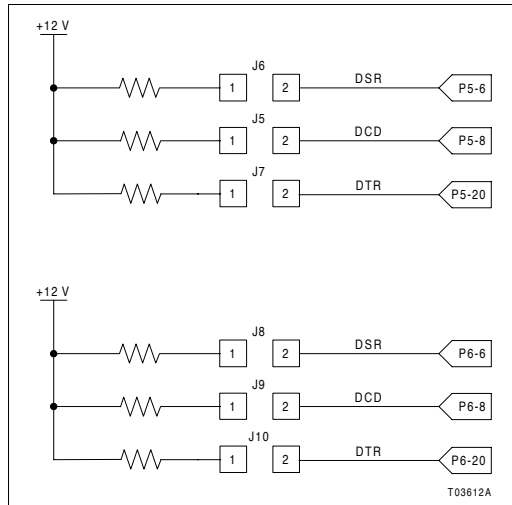

Figure PR5-3. NTMP01 Jumpers J5 to J10 - Handshake Control
- 3. Jumpers J5 through J10 set the handshake signals for the serial ports (DSR, DCD, and DTR) and must be set to match the equipment being connected. Set the port zero handshake control signals with J5, J6, and J7 and the port zero handshake control signals with J8, J9, and J10 (Table PR5-3). Figure PR5-3 shows the jumper signal connections.